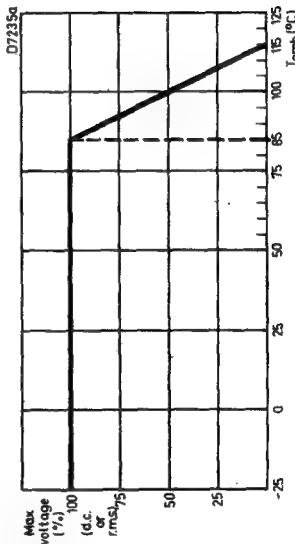

Fig. 2
5) The d.c. working voltage is the average value of the applied working voltage. For ambient temperatures higher than 85 °C the maximum values must be derated as indicated in Fig. 2.